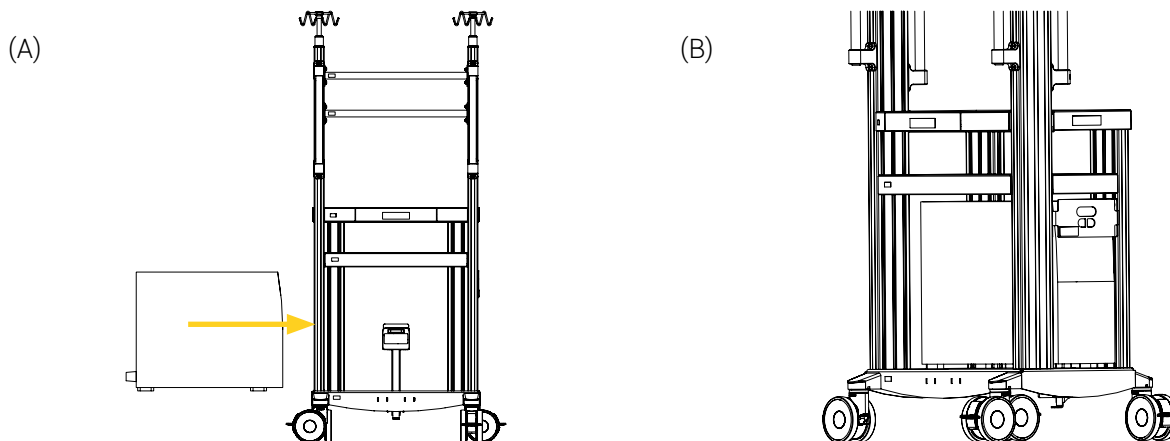

Figure 36: UPS installation
3. Ensure to have applied all four (4) brakes on the transport cart.
4. Install the unit on the UPS shelf, ensuring that the on/off button is inserted on the cart patient left (Figure 36).